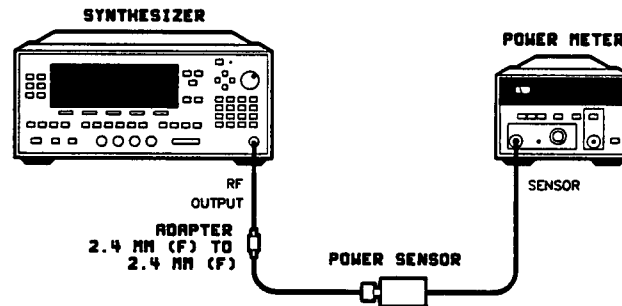

Figure 3-27. ALC Power Accuracy Adjustment Setup
1. Preset the equipment shown in figure 3-27 and let them warm up for at least one hour. Do not connect the power sensor to the synthesizer RF OUTPUT yet.